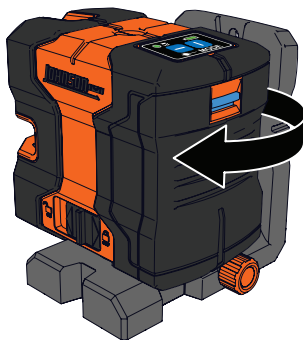
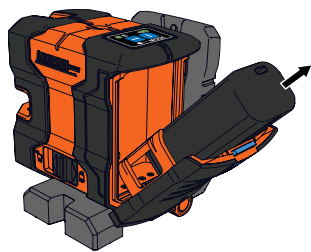

Figure 3
Figure 5
1. Open the battery compartment. (*Figure 3 - Figure 5*)
1. Rotate the Cross-Line laser so the rear of the unit is accessible. *(Figure 3)*
(Figure 5)